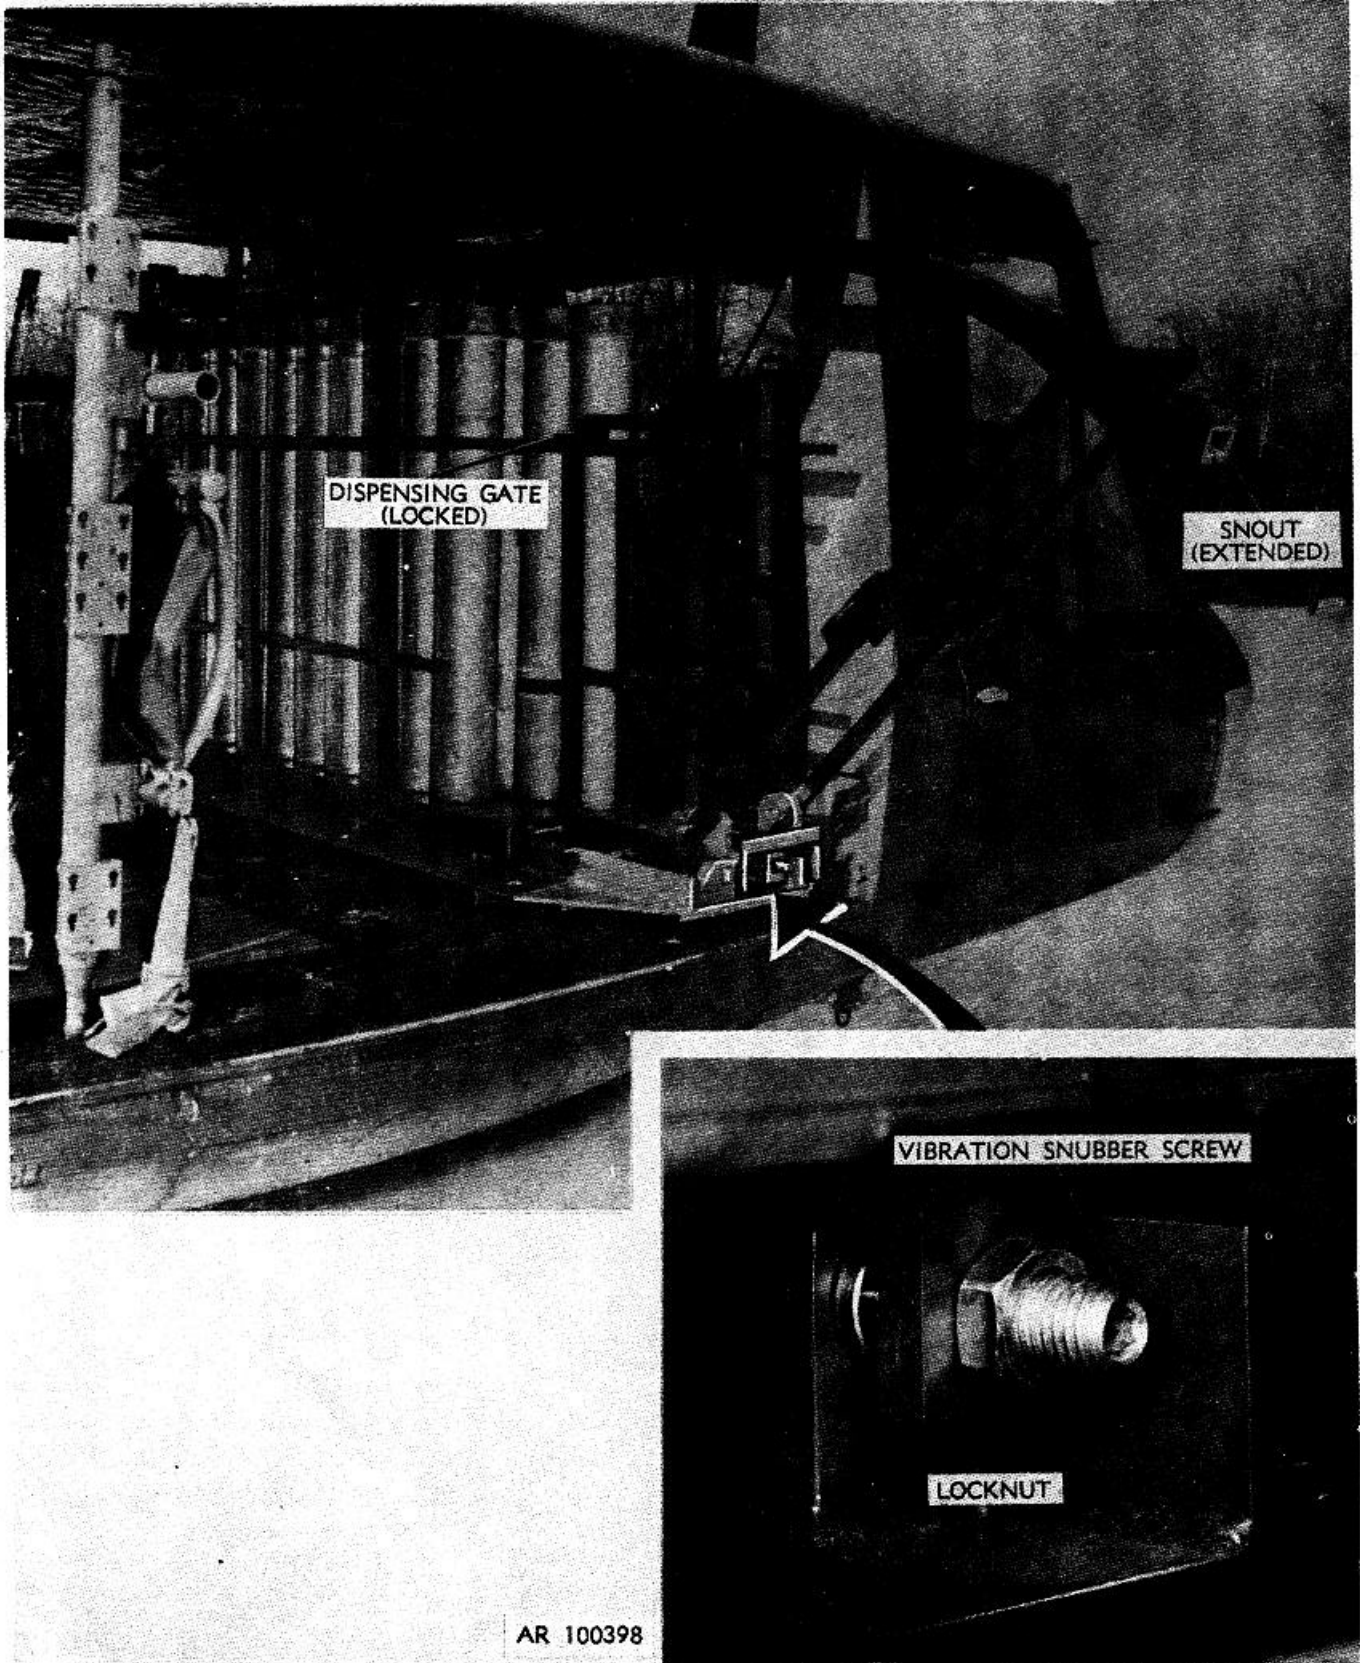

Figure 1-9. Flare dispenser XM19- installed in helicopter and loaded with flares.
(1) *Using Flare Dispenser XM19 to Launch Parachute Aircraft Flare Mk 45 Mod 0 with Adapter.* When the dispenser is loaded with flares (fig. 1-9), the pull cable assembly is held by the overhead track, while the full weight of the flare rests on the base tray. To launch the flare, the body of the flare is pushed along the base tray toward the extended snout, while the pull cable assembly slides along the overhead track. The flare is tripped at the end of the base tray, and the pull cable assembly slides down the snout until it simultaneously pulls the flare away from the trip and the pull cable assembly engages the cam. The weight of the flare against the cam separates the pull cable assembly from the flare, arming the flare.